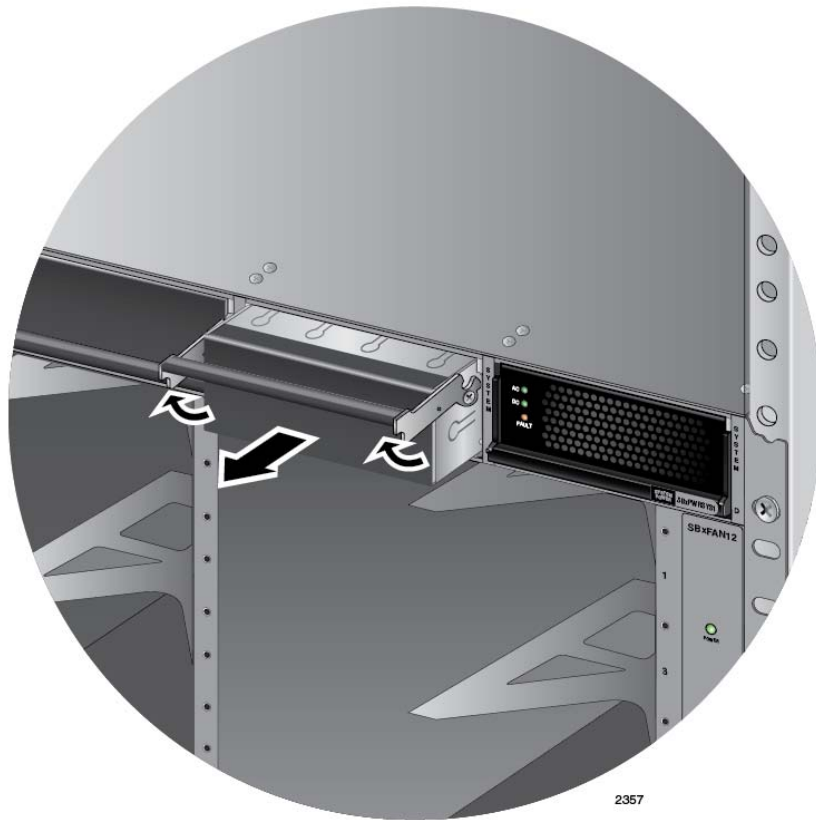

Figure 48. Removing the Blank Slot Cover from Power Supply Slot C
2. If the chassis already has a power supply in slot D, remove the blank power supply panel from slot C by lifting the blank panel handle and sliding it out of the slot, as shown in Figure 48 on page 108.